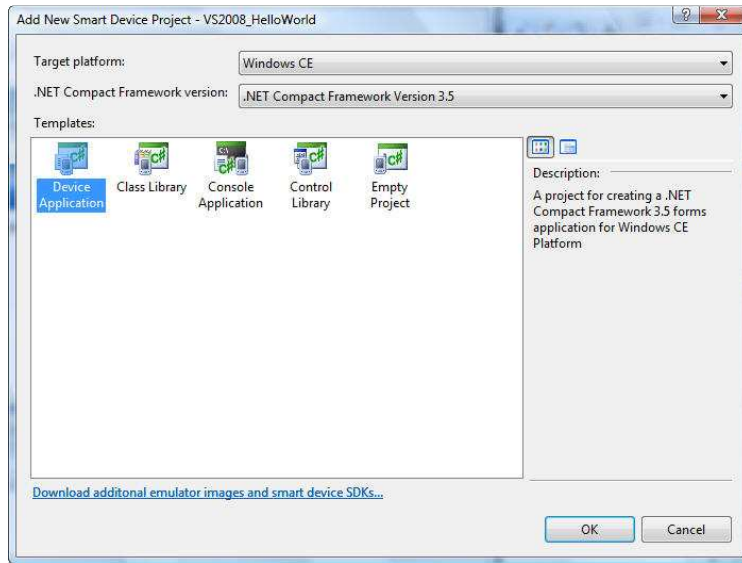

Fig. M02 - VS2008 IDE / New C# managed code Project
- Click on the **OK** button to bring up the “Add New Smart Device Project – VS2008_HelloWorld” screen, as shown in Figure M02.